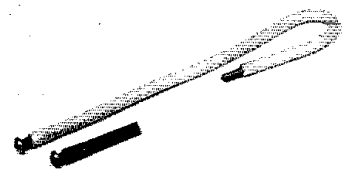

Fig 4—Samples of W1HHF's nut-from-insulation technique.
Fig 4—Spectral display of the IC-275A operating at full output. Horizontal divisions are each 100 MHz; vertical divisions are each 10 dB. The output power is approximately 35 W at 147 MHz. The fundamental has been reduced in amplitude approximately 25 dB by means of notch cavities to prevent spectrum analyzer overload. All harmonics and spurious emissions are at least 66 dB below peak fundamental output. The IC-275A complies with current FCC specifications for spectral purity.
□ I recently required the use of an old milliammeter, which had the mounting screws permanently embedded in the case flange. The nuts for the no. 2 mounting screws were missing, and there were no replacements in any of my accumulated hardware. By using the plastic sleeve that insulates hook-up wire as a replacement nut, I quickly secured the meter on the new panel (see Fig 4).